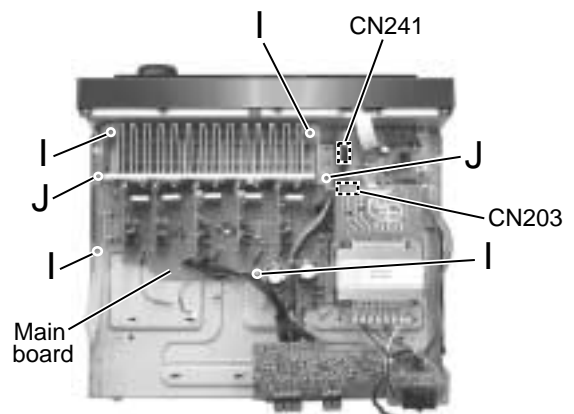

Fig.10
**■ Removing the main board (See Fig.10)**